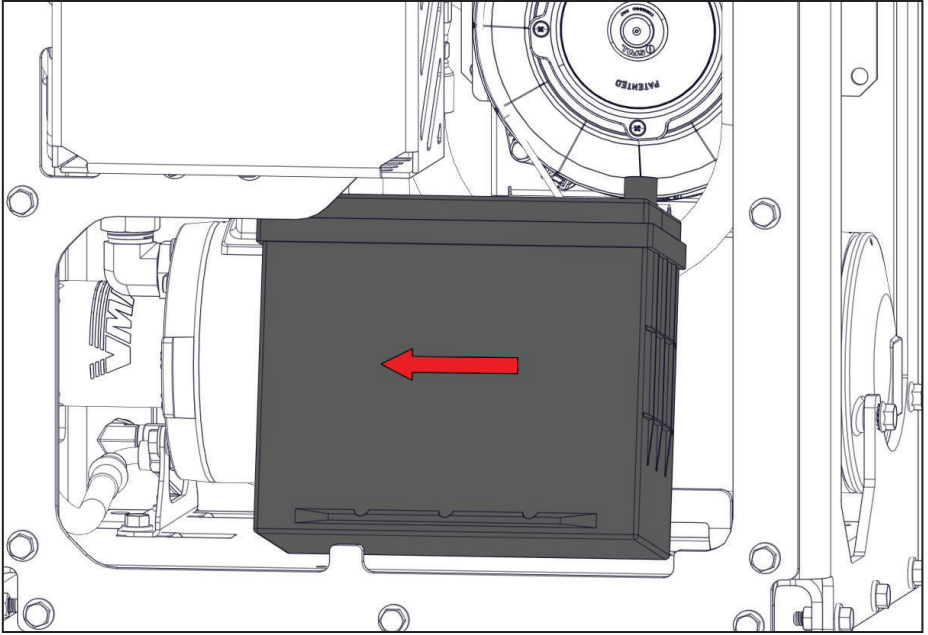

Figure 62 — Remove battery
- ☐ Tilt the battery up and slide it back a few inches (Figure 62).